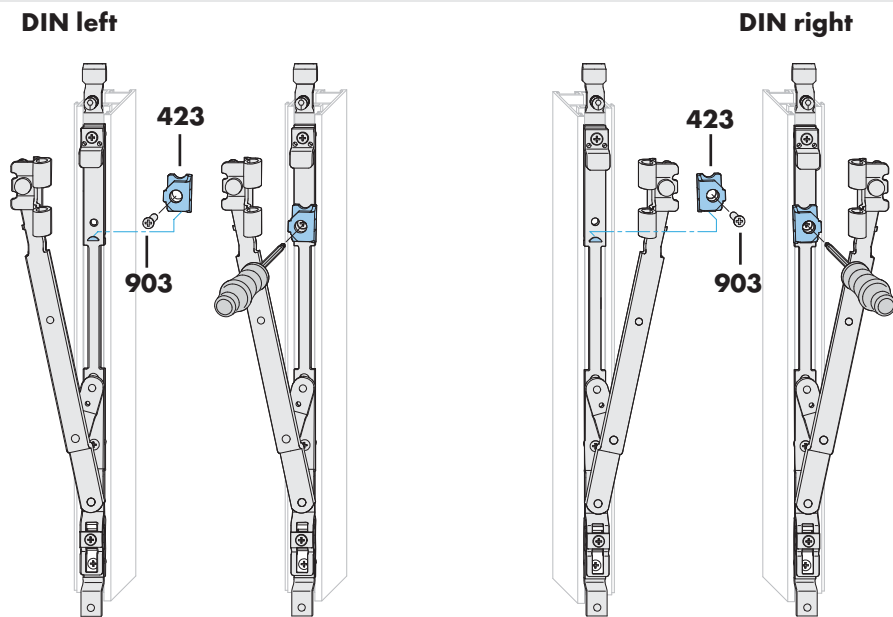

Fig. 1
Position supporting piece Rb (423) as DIN right or DIN left on intended stop radius and secure with countersunk screw M5 x 19 (903) (torque 2.7 ± 0.25 Nm), see fig. 1.